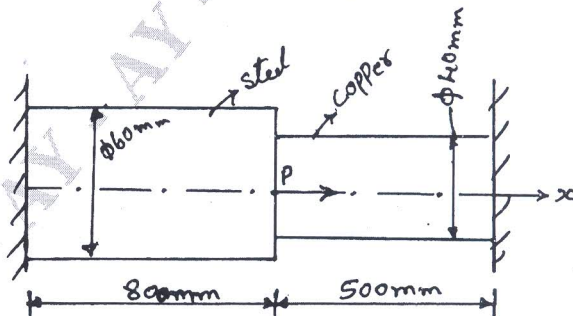

Fig Q5
- 5 Consider the bar shown in Fig Q5. Using penalty method of handling boundary condition. Determine the nodal displacement, stress in each element and support reactions. Due to applied force  $P = 100\text{kN}$ . Take  $E_{\text{steel}} = 200\text{GPa}$ ,  $E_{\text{cu}} = 100\text{GPa}$ .